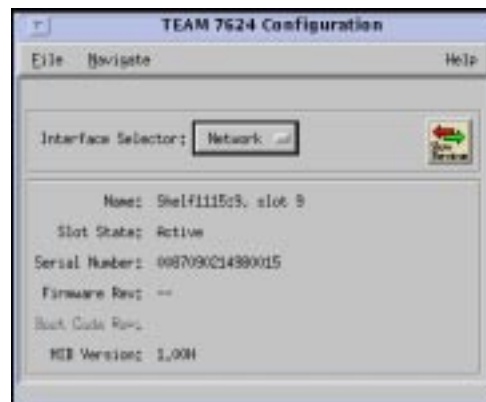
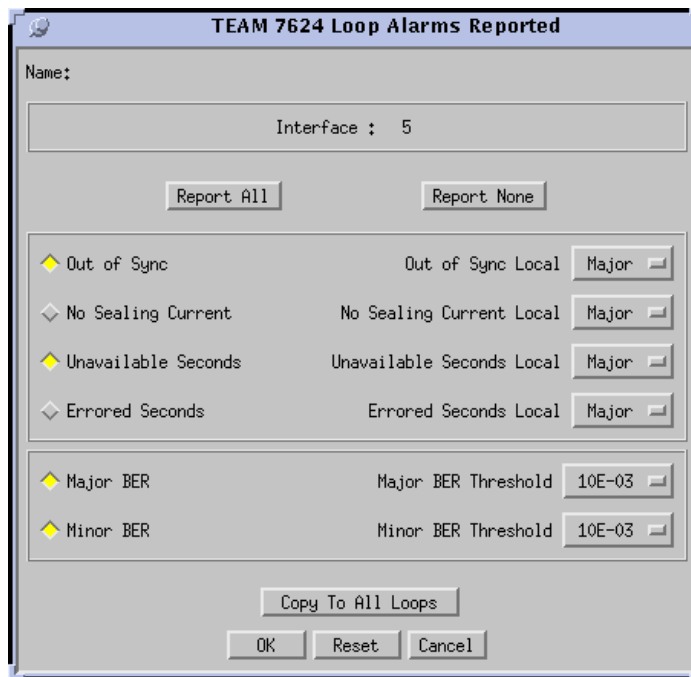

Figure 2-2 Configuration - Main Window Screen
Figure 2-5 Loop Alarms Reported Screen
The main window is made up of four areas: (1) Title bar provides the product name and configuration type; (2) Name field contains the shelf name, slot number, and symbol label; (3) Menu bar provides file operations, navigation through subordinate screens, and help; and (4) Main body of the window is composed of administrative read-only fields and the Interface Selector for choosing the appropriate interface. Status messages are displayed at the bottom of the screen and advise you about what is going on within the application (See Figure 2-2). Table 2-3, Table 2-4, Table 2-5, and Table 2-6 call out the different aspects of the main configuration screen or window.
The loop alarms reported screen is shown when you first access the 7626 Configuration main window and choose the desired interface, which in this case, would be one of the twelve loops from the Interface Selector shown in Figure 2-2. Then, select Navigate->Alarms Reported and get the Loop Alarms Reported screen (See Figure 2-5 and refer to Table 2-9). The loop alarms screen lets you configure alarm reporting with thresholds on a per-loop basis. By choosing a particular alarm you, report it. That means that the alarm is reported in an SNMP Trap from the SCM to the controller. For this screen, the Name field is read-only. With the local alarm configuration, you can mask or set the severity of given alarms that can trigger the local alarm card for alarm display on a light panel. Local alarms do not create SNMP traps. Settings are stored within the 7626 product. For all local alarms, your choices are Disabled, Enable Major, and Enable Minor. All Disabled is the default.